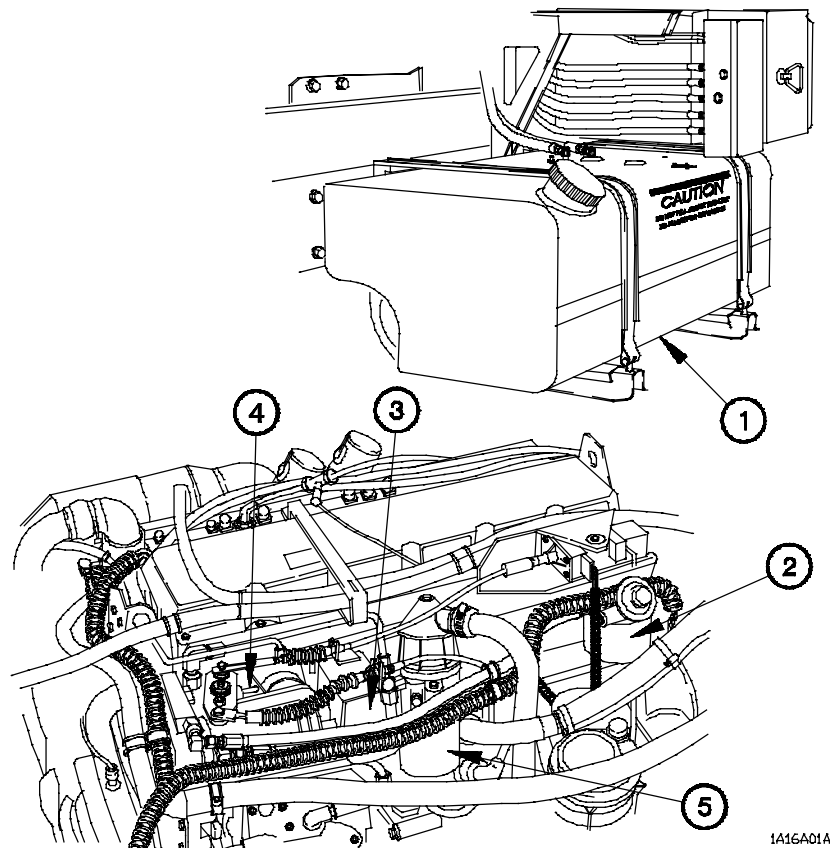

Figure 1-11. Fuel System
The Fuel System consists of a 56 gal (212 L) capacity, 54 gal (204 L) useable fuel tank (1, Figure 1-11), fuel priming pump and fuel/water separator (2), fuel shutoff solenoid (3), fuel governor (4), and secondary fuel filter (5). ■
(1) The fuel priming pump is hand actuated and is used to pump fuel to the fuel governor after maintenance is performed on certain parts of the fuel system.
(2) The fuel/water separator removes water and large solid particles from the fuel before it is passed to the fuel governor.
(3) The fuel governor responds to input from the accelerator pedal and causes an increase or decrease in engine speed. The fuel governor adjusts the amount of fuel delivered to the engine as engine speed changes.